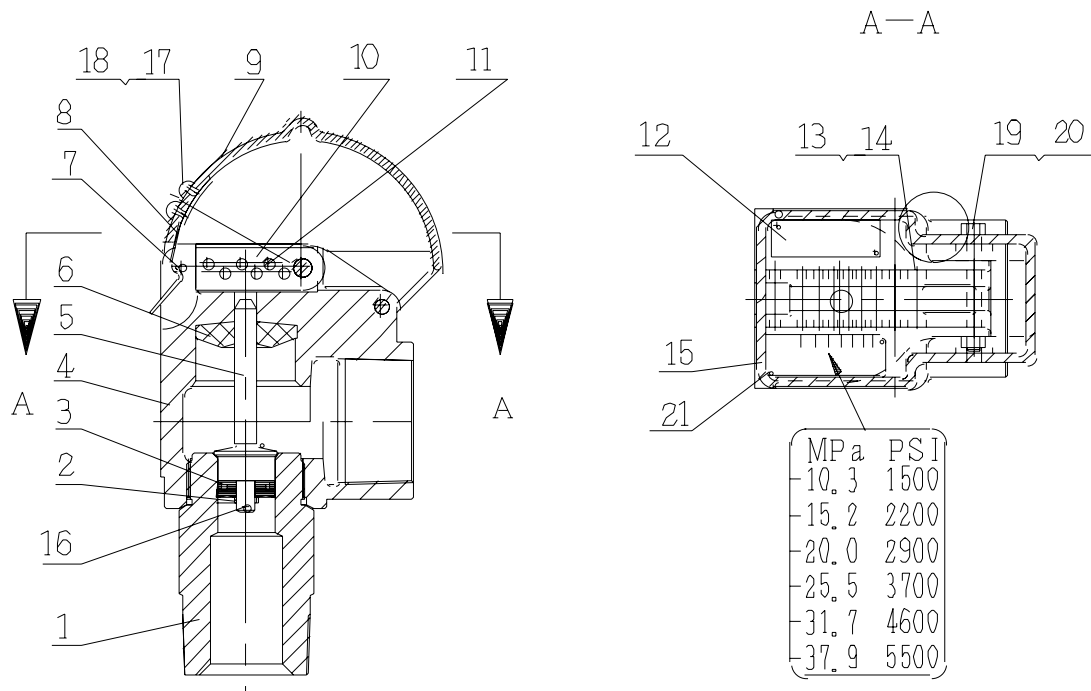

Fig 12 JA-3 Shear safety Valve
(1)Connector (2)Retainer Ring (3)Piston Assy. (4)Body (5)Piston Rod (6)Bumper (7)Pin (8)Locking spring (9)Safety Cap (10)Shear Bar (11)Shear Pin (12)Warning Plate (13)Pin shaft (14) Retainer Ring (15)Name Plate (16)Cotter Pin (17)Nut (18)Cap screw (19)Bolt (20)Nut (21) Cap screw
JA-3 shear pin safety valve structure refers to Fig 12. When the pump pressure exceeds the rating pressure, the force of piston (3) will jack up shear pin plate (10), which will cause the shear pin (11) broken and the fluid emptying fast.